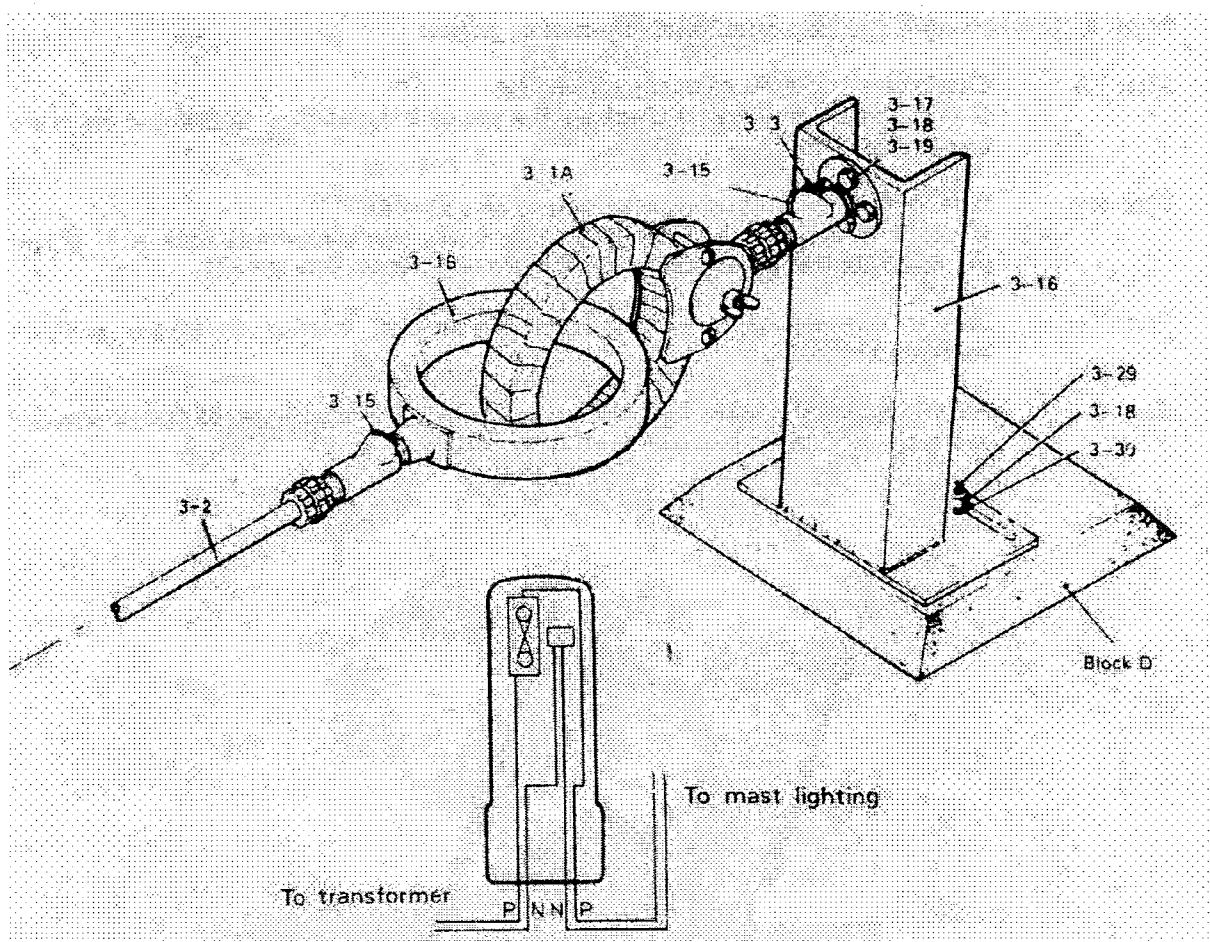

FIGURE 22B – Lighting Transformer and Fuse Box Wiring
- Step 12 Refer now to EI-1022 for other instructions concerning the transformer. Then carefully supporting both rings of the transformer, attach the longer spigot to the upper mounting bracket using the U-bolts supplied - do not fully tighten at this stage. See figure 22B.